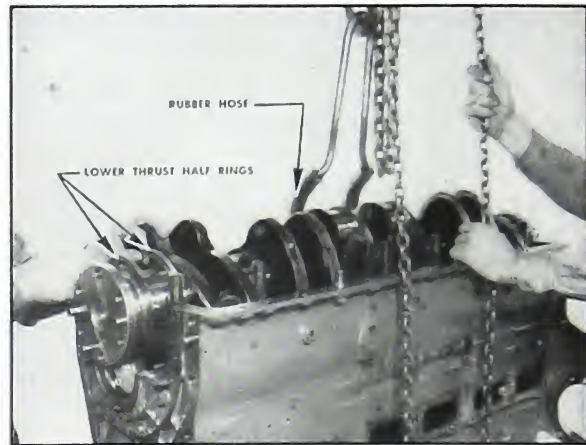

Fig. 2-2. Lifting crankshaft
3. With hooks protected by rubber hose, or with a rope at two crank throws (Fig. 2-2), lift the crankshaft from the cylinder block. Be very careful to remove the lower main bearings from the crank before lifting.